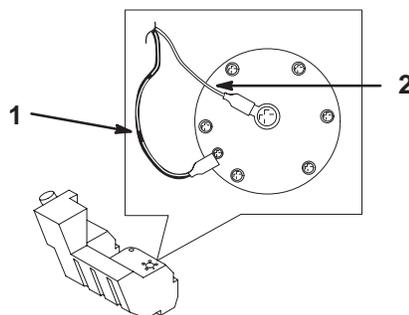

Figure 42
12. Disconnect the two wires leading to the right side of the tank (Fig. 42).
19. On the right side of the tank, connect the orange wire to the center post and the black wire to the outside post (Fig. 42).